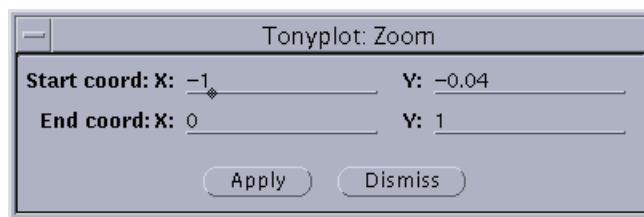

Figure 7-7: The Zoom Popup
- **Set zoom...:** displays the popup shown in Figure 7-7. This popup is used to define a data range to which the plot will be zoomed. Enter the opposite corners of a rectangle, and click on the **Apply** button to set this zoom. Any previous zoom parameters will be discarded.